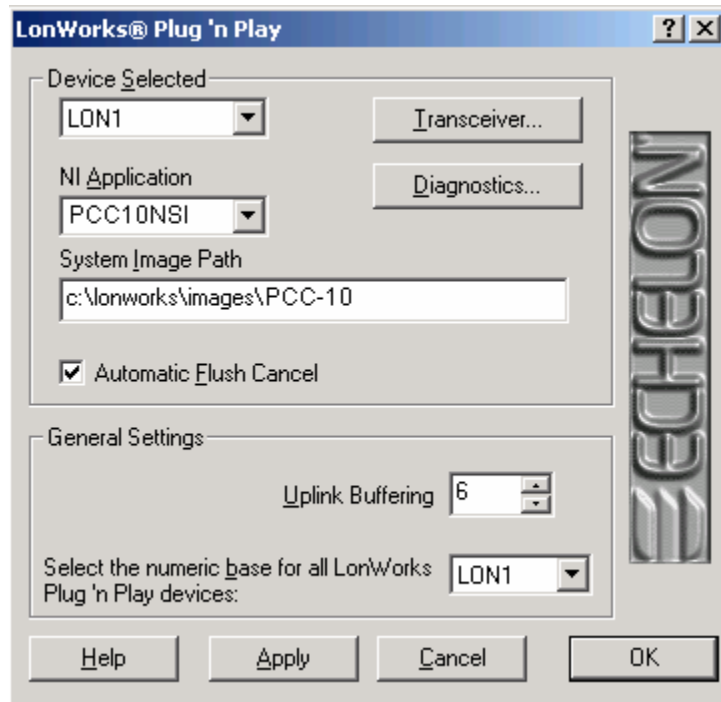

Figure 3. LONWORKS Plug 'n Play Application
1. Open the Windows Control Panel and double-click the **LONWORKS Plug 'n Play** icon. The dialog shown in **Figure 3** opens.